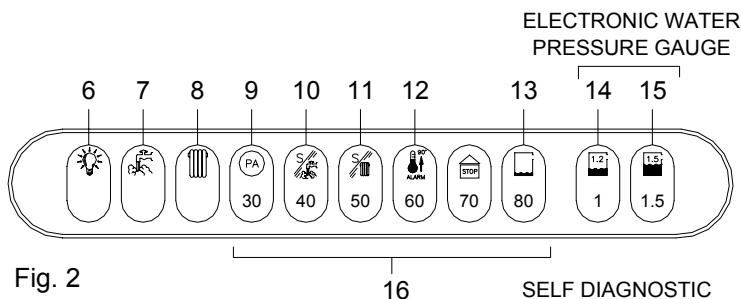

Fig. 2
SELF-DIAGNOSTIC LEGEND (see fig. 2)
- turn selector switch 1 to the ❄ symbol denoting winter (see fig.2);
- make sure that 6 light is ON (see fig. 2 pag. 1) and the no.14 or no.15 lights are ON (see fig. 2); if light no.13 flashes, it means water deficiency in the system: open the tap on the filling loop and fill the system until a pressure of 1.5 bar has been reached (light no.15 ON; see fig. 2) and then close the tap.